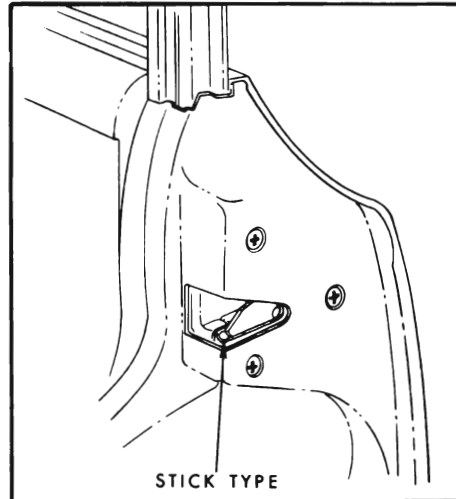

Figure 1-23—Door Lock Striker Fork Bolt
- a. Door Lock Striker Fork Bolt - Stick Type Lubricant. See Figure 1-23.